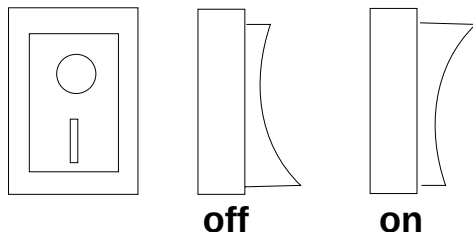

FIG. 1
- The switch is located in a right lateral of the machine, to proceed to the ground starting you presses the switch such a form that the circulate is in the area that stands out. (FIG. 1)
- For stop machine, presses the switch such a form that the line is in the area that stands out. (FIG. 1)